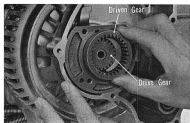

Fig. 7B-29
4. Assemble the pressure pump drive gear on the pump shaft and then install the drive gear. (Fig. 7B-29)